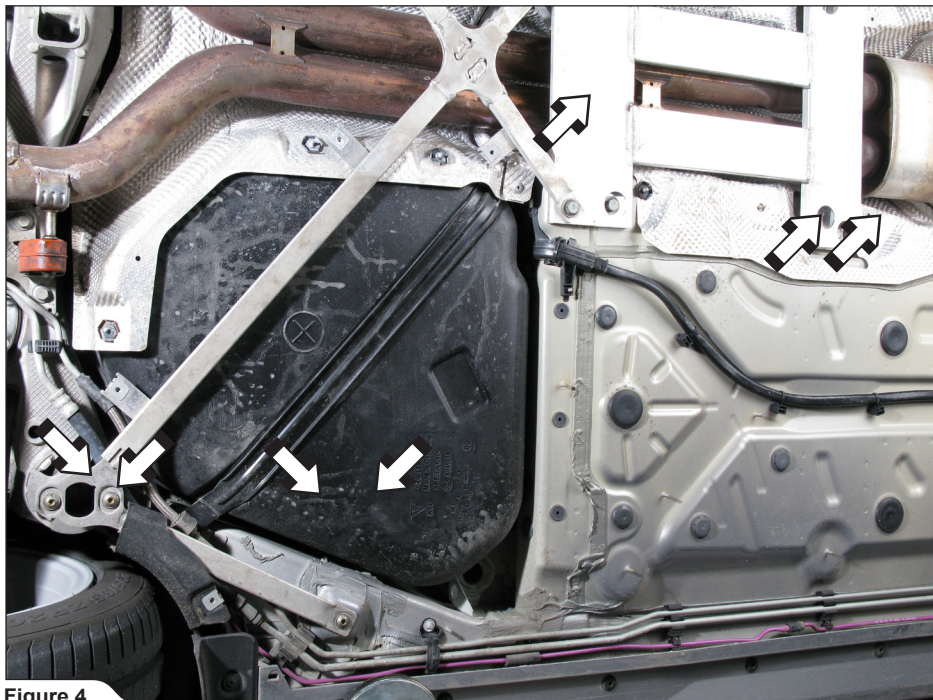

Figure 4
2. **For all vehicle models:** unscrew the marked bolts on both sides of the vehicle and remove both aluminium chassis reinforcements (**Figure 4**).